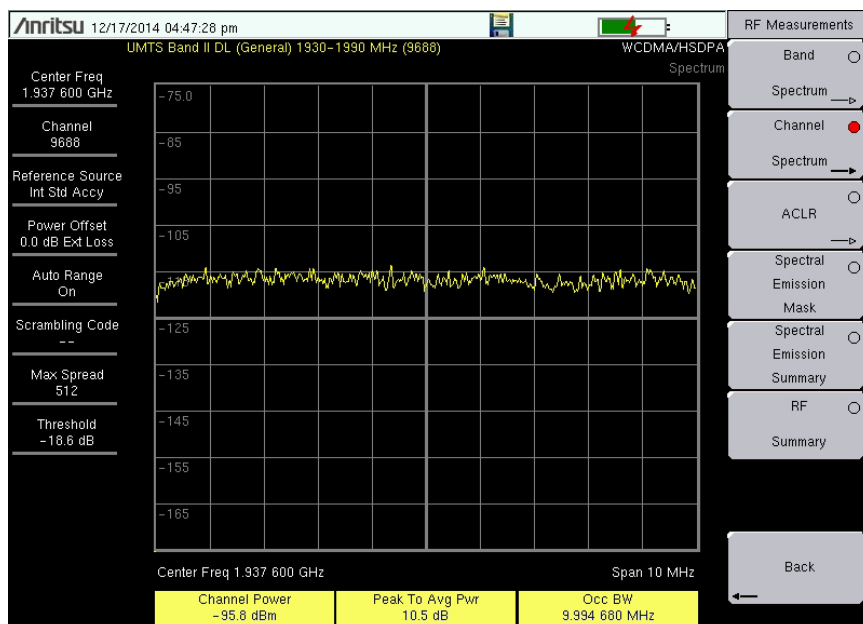

Figure 3-2. Channel Spectrum
5. Press the Channel Spectrum submenu key to activate the spectrum measurement (Figure 3-2).